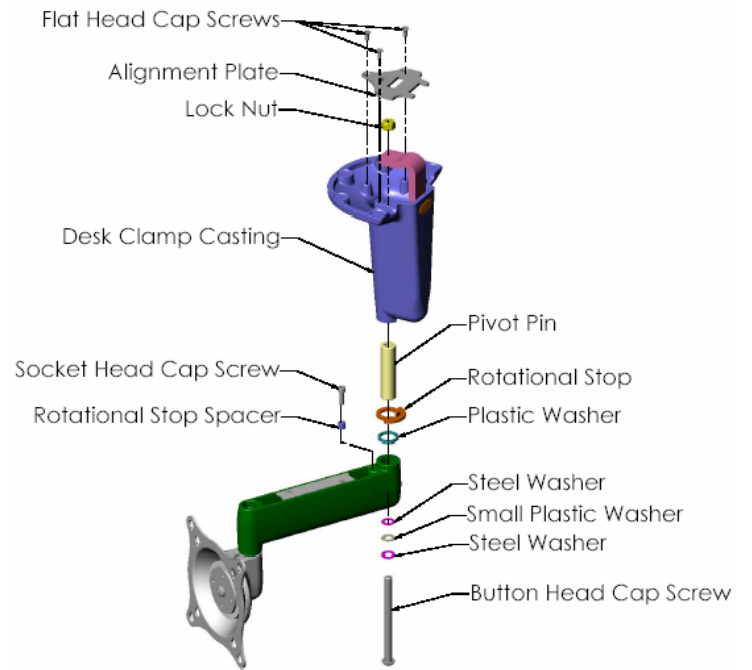
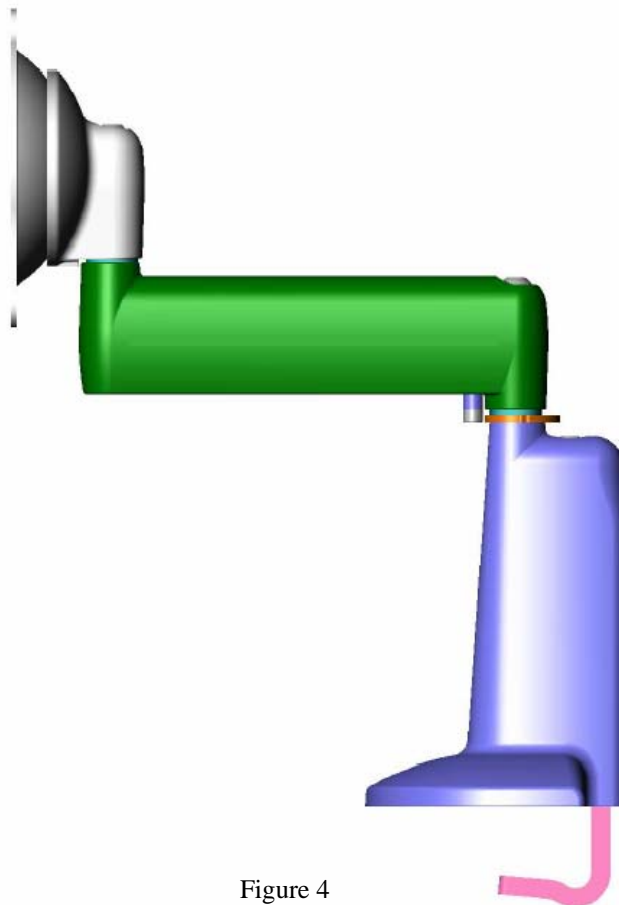

Figure 3
Figure 4
3. Attach components (see Figure 3).
4. Using the 3/16" hex key, tighten the button head cap screw located at arm pivot point (see Figure 3 and Figure 4) until the desired amount of pivoting friction is achieved.